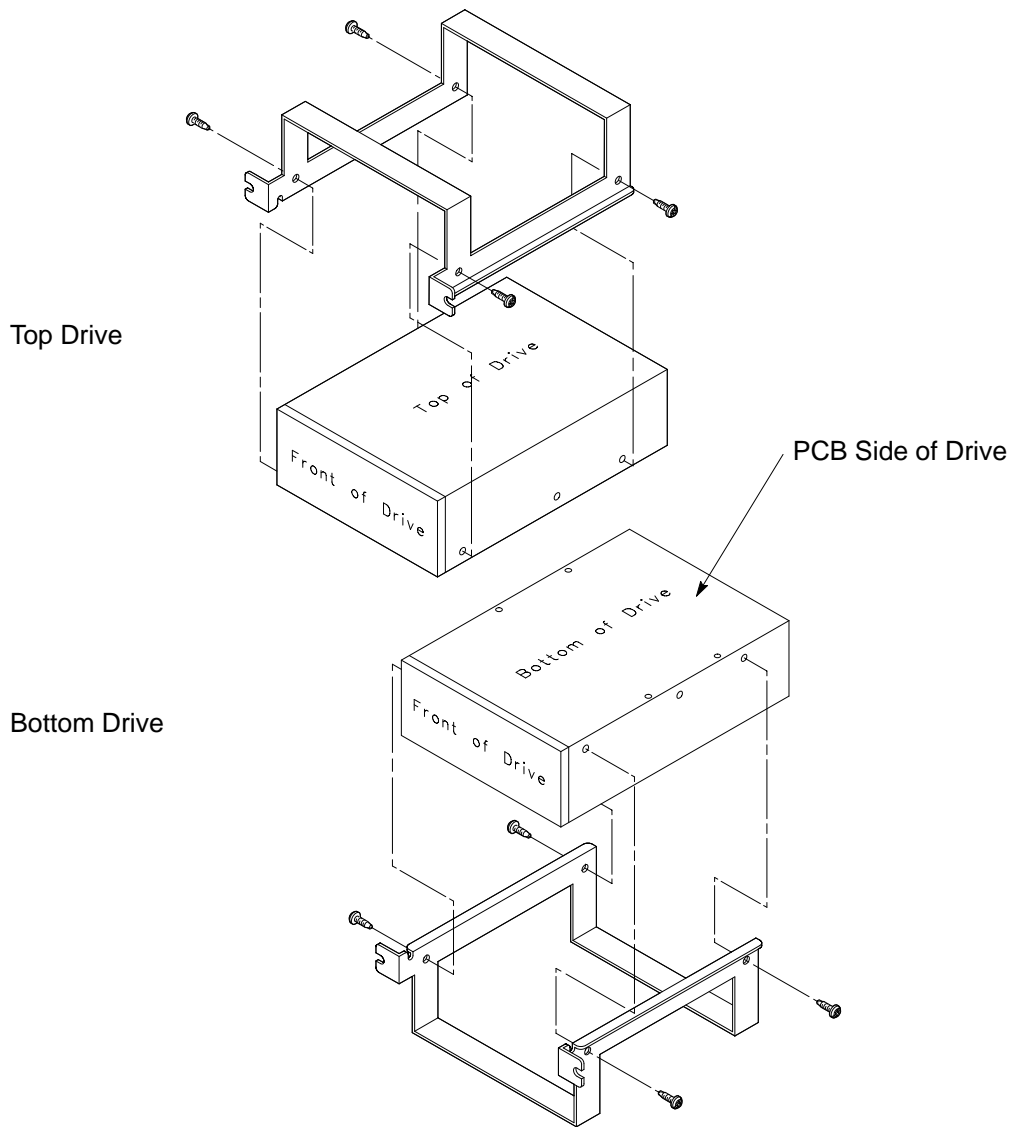

Figure A-16. Replacing Hard Drive Mounting Bracket and Drive Orientation
2. If you removed the disk drive mounting bracket from the disk drive, replace it now, making sure not to over-tighten the screws. Figure A-16 shows the orientation of the drive in the bracket for both drives and the position of the screws holding the drive bracket in place.